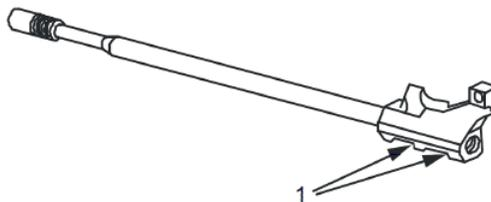

Figure 33. Gas Piston Assembly, Sear Notches.
3. Check for rounded edges on sear notches (Figure 33, Item 1) of gas piston assembly. Replace as necessary (WP 0015).